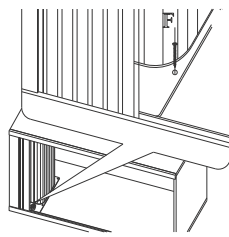

Fig. 8
5. Locate the spring mechanism in its position and screw it as shown in Fig. 8.